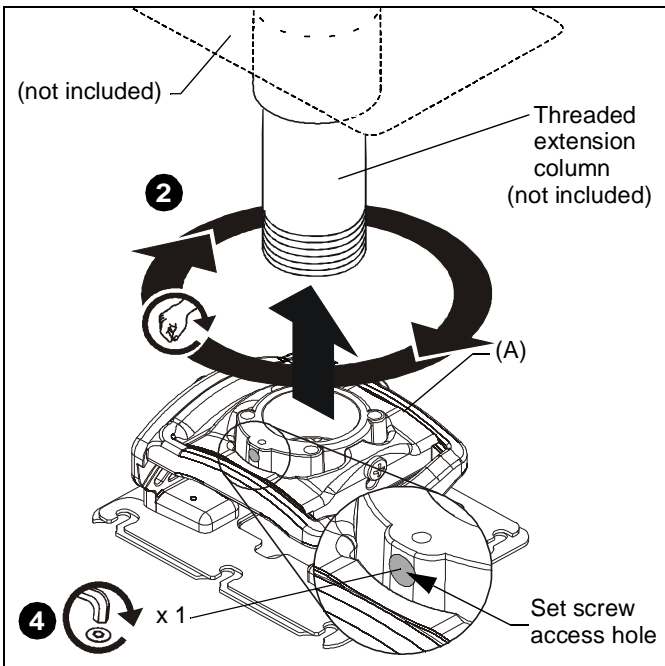

Figure 4
4. Secure RPME to pipe by turning set screw with a 5/32" hex key until tight. (See Figure 4)